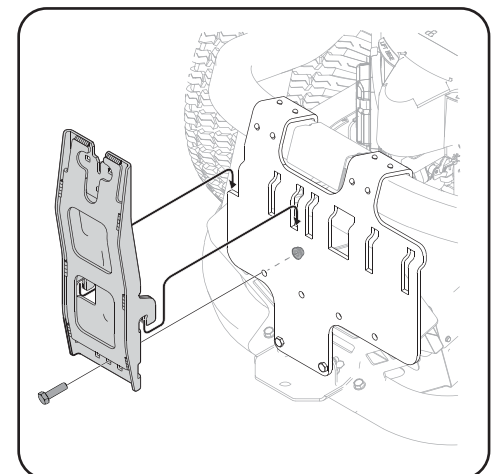

Figure 4-6
2. Install the vertical support bracket onto the mounting assembly on the tractor by hooking it over the mounting assembly as shown in Figure 4-6.
3. Secure the upright support bracket to the mounting assembly using a hex bolt (710-0376) and flange lock nut (712-04063) from hardware pack 689-01419. See Figure 4-6.